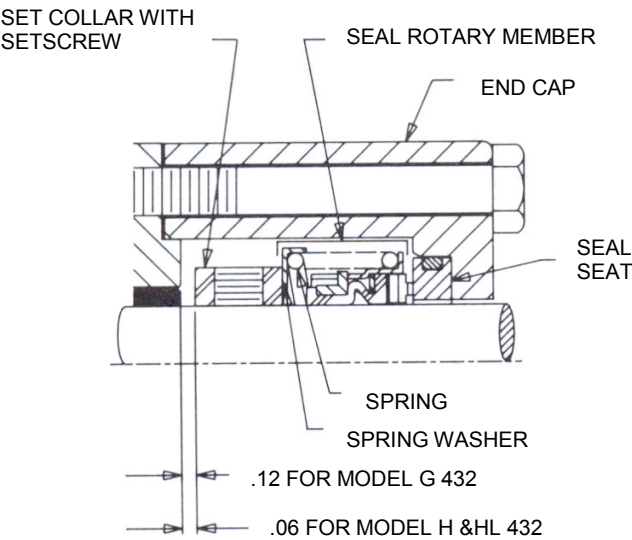

FIGURE 15 – SECTIONAL VIEW, SEAL AREA
Install the mechanical seal: Place the set-collar on the shaft and tighten setscrew. See Figure 15 for set-collar location.
- The spring washer and spring must be put on the shaft first and in that order. (See Figure 15).